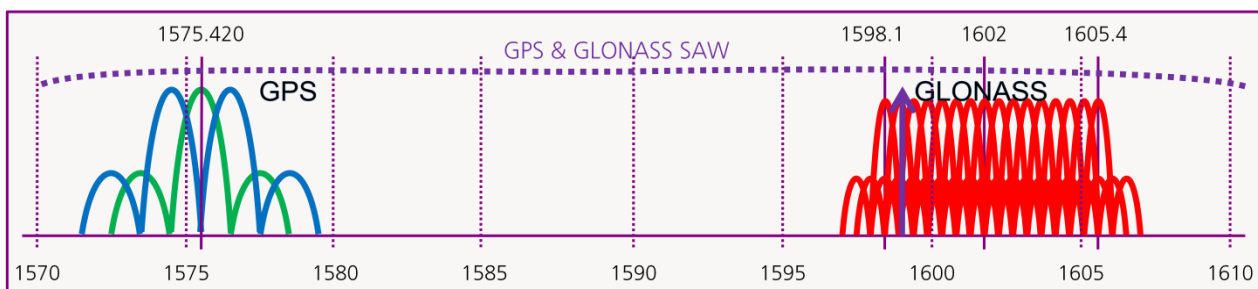

Figure 16: GPS & GLONASS SAW filter
LEA-6N and LEA-6H-0-002 designs for GLONASS require a wide RF path. Ensure that the antenna and external SAW filter are sufficient to allow GLONASS & GPS signals to pass (see Figure 16).
As seen in Figure 16, the GLONASS / GPS satellite signals are not at the same frequency. For this reason the RF path, LNA, filter, and antenna must be modified accordingly to let both signals pass.
- Use a GPS & GLONASS SAW filter (see Figure 16) that lets both GPS and GLONASS signals pass. (See the recommended parts list in section 3.3.9.)
Usually an active GPS antenna includes a GPS band pass filter which might filter out the GLONASS signal (see Figure 16). For this reason make sure that the filter in the active antenna is wide enough to let the GPS and GLONASS signals pass.
In combined GPS & GLONASS antennas, the antenna has to be tuned to receive both signals and the filter has a larger bandwidth to provide optimal GPS & GLONASS signal reception (see Figure 16).